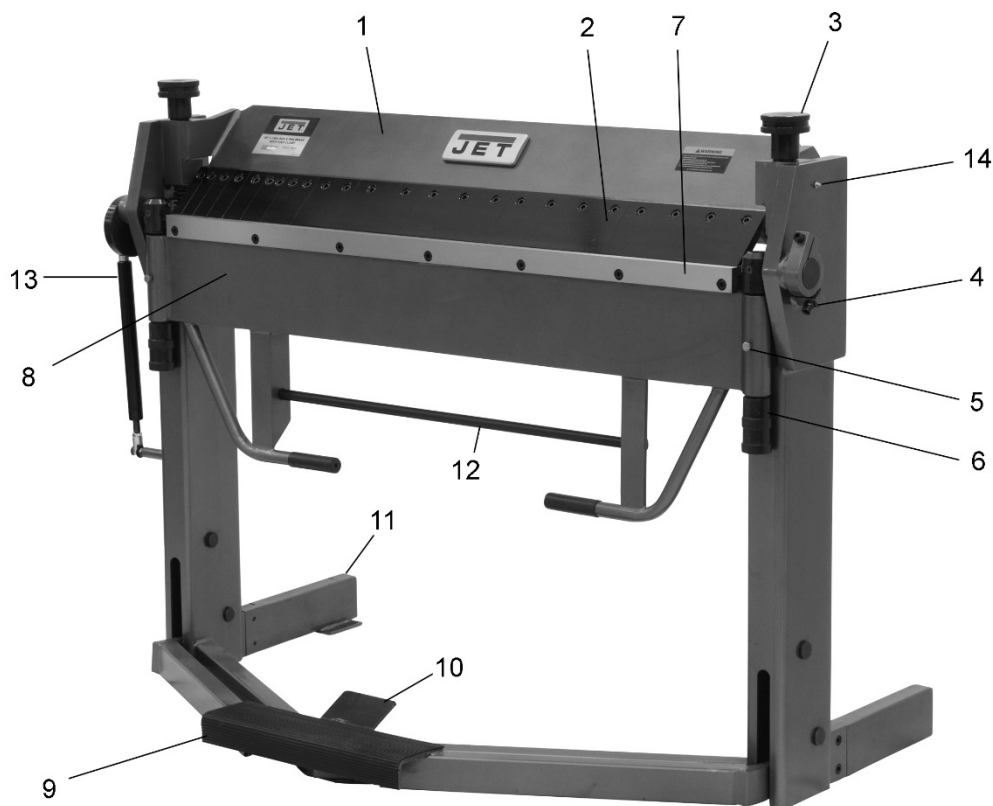
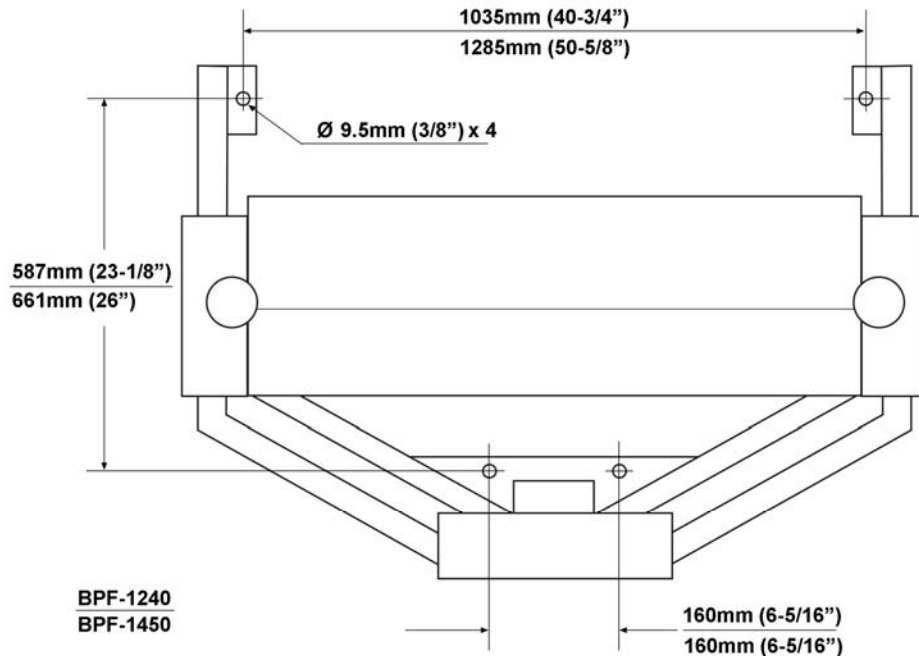

Figure 1
Figure 2
*Numbers in parentheses refer to items in Figure 1.*
2. Attach the two support legs (11) with two screws each.
3. Secure machine to floor using lag screws or similar system. See diagram, Figure 2.